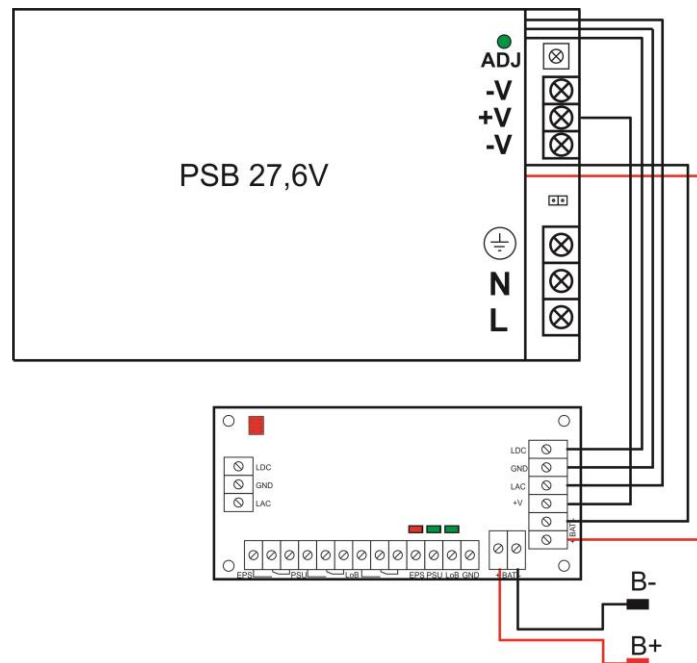

Fig.2. Diagram of connecting the module to the PSB power supply unit.
Technical outputs: - EPS; output indicating AC power failure - PSU; output indicating DC absence/PSU failure - LoB output indicating low battery voltage	<p>- relay type: 1A@ 30VDC/50VAC, time lag: approx. 10s. CAUTION! In Fig.2. the contact set in the potential-free status corresponds to a state with no AC power (AC power failure). - OC type, 50mA max., normal status: L (0V) level, failure: hi-Z level, time lag: 10s.</p> <p>- relay type: 1A@ 30VDC/50VAC CAUTION! In the Fig.2. the set of contacts indicates potential-free status of the relay which corresponds to the DC power absence (PSU failure). - OC type, 50mA max., normal status: L (0V) level, failure: hi-Z level</p> <p>- relay type: 1A@ 30VDC/50VAC CAUTION! In the Fig.2. the set of contacts indicates potential-free status of the relay which corresponds to a low battery level ($U_{BAT} < 23V$). - OC type, 50mA max., normal status: ($U_{BAT} > 23V$): L (0V), failure: ($U_{BAT} < 23V$): hi-Z level Module does not feature a battery detection function. In the case of no battery or non battery connected, the output is in the normal mode.</p>
3. Cut the BAT+, BAT- leads in the PSB 27,6V PSU, separate and connect to the module, following the diagram. (fig.2).